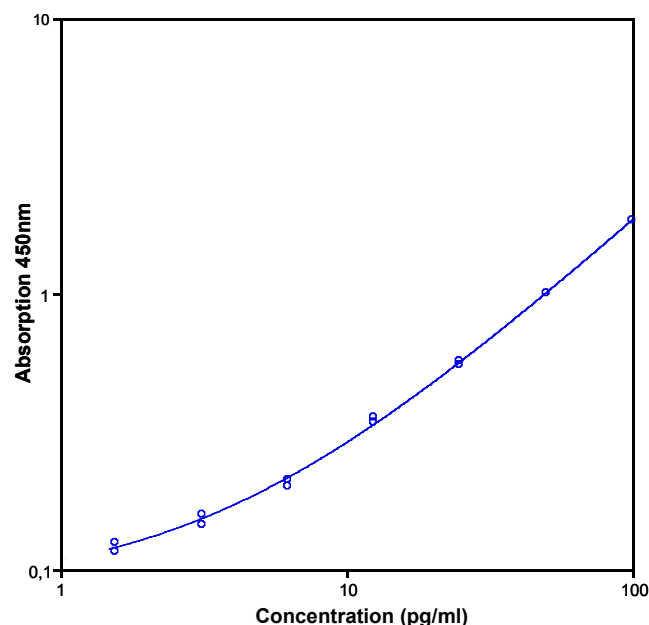

Fig. 8 Representative standard curve for Human IL-6 ELISA Kit. Human IL-6 was diluted in serial 2-fold steps in Assay Buffer (1x).
- A representative standard curve is shown in Figure 8.